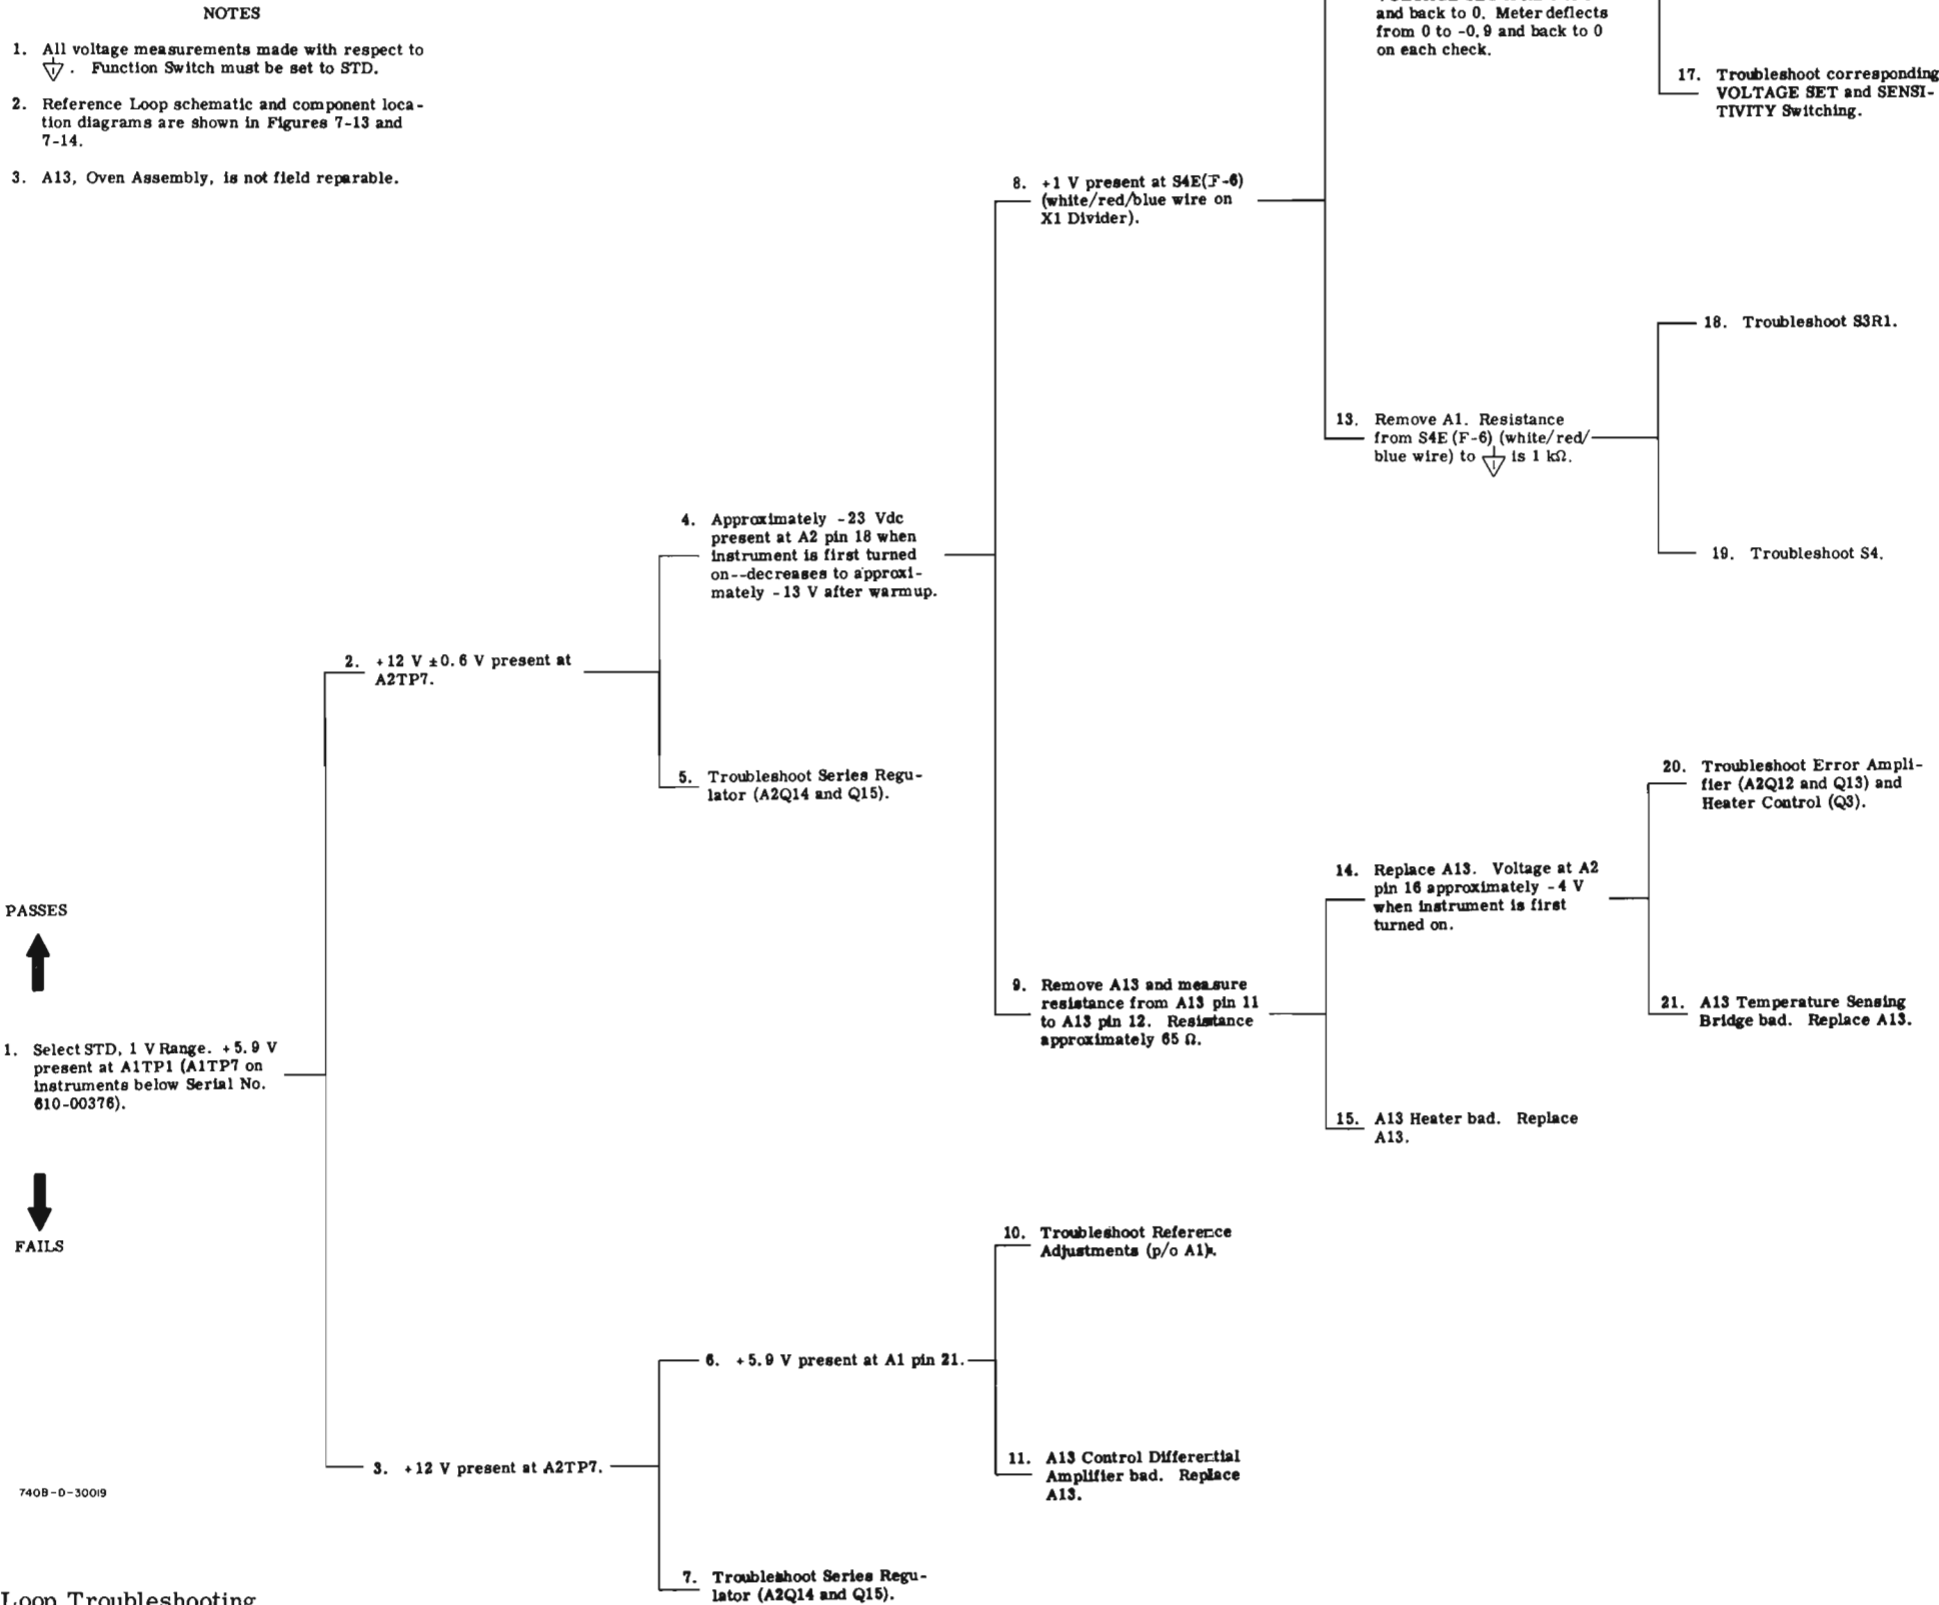

Figure 5-17. Reference Loop Troubleshooting Tree
| 11. Follow procedure in Reference Loop Troubleshooting Tree (Figure 5-17). | 23. Follow procedure in Main Loop Troubleshooting Tree (Figure 5-15). |
| 31. Follow procedure in Reference Loop Troubleshooting Tree (Figure 5-17). | 48. Δ VM Function switching in Meter Loop or Reference Loop is probably at fault. Possible trouble areas: Deck S1I(F) and S1H(R) of Range/Function Switch, S1 (Figure 7-3). |
33. If waveshape at A5 pin 19 is greater than 20 μsec duration, the Pulse Width Converter (p/o A5) is furnishing T3 with a proper input.	47. The absence of +1 V at A17V1 may be caused by trouble in the Input Filter: L2, C6, C7 (Figure 7-3). Check for open L2 or shorted C6 or C7. If Filter is not at fault, the Reference Loop is not generating +1 V. Follow procedure in Reference Loop Troubleshooting Tree (Figure 5-17).